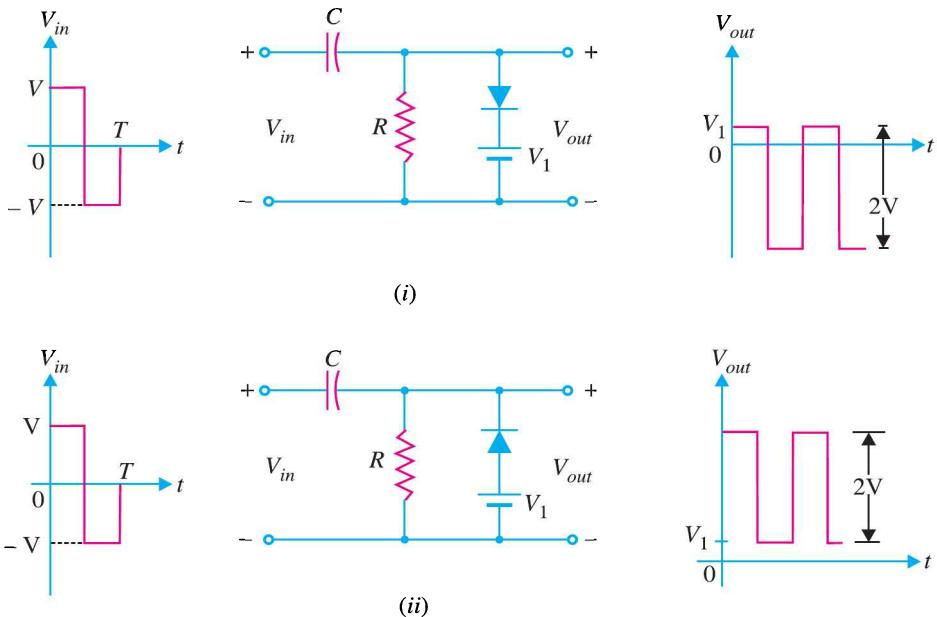

Fig. 18.64
**Example 18.21.** Draw the output voltage waveform for the input wave shown in Fig. 18.64.
**Solution.** Fig. 18.64 (i) shows the output voltage waveform for the input wave to the clamping circuit. This is a negative clamper and pushes the input wave downward so that positive peak voltage is now  $V_1$ . Fig. 18.64 (ii) shows the output voltage waveform from a positive clamper. Note that the input wave is pushed upwards so that negative peaks are  $V_1$  volts above the zero level.